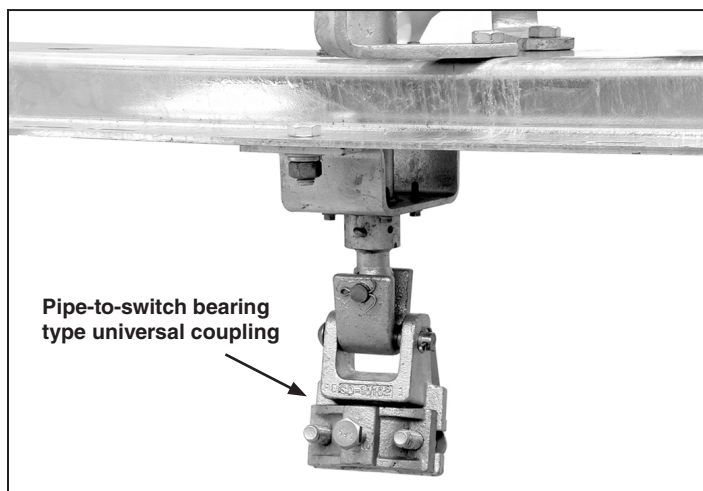

Figure 3. Universal coupling.
STEP 3. Attach a universal coupling to the rotating shaft of the switch pole that will connect to the vertical operating pipe, as indicated on the erection drawing. See Figure 3. On the base of the same switch pole, attach an open-stop bracket. See Detail G on the erection drawing. Adjust the stop bolt for 90-degree opening.